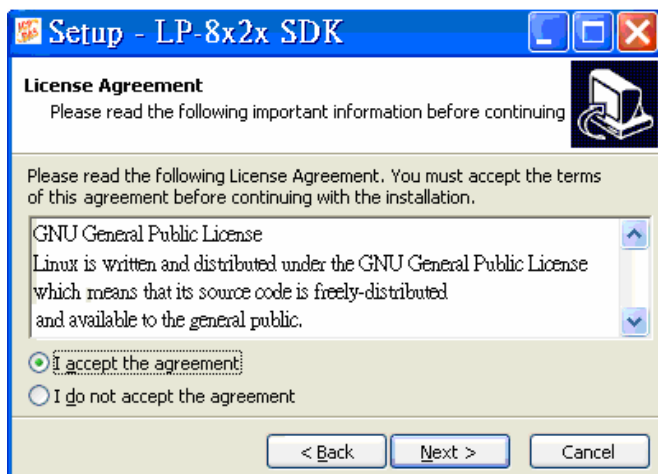

Fig. 2-10
3. Click the “I accept the agreement” option and then click the “Next” button, refer to Fig. 2-10.